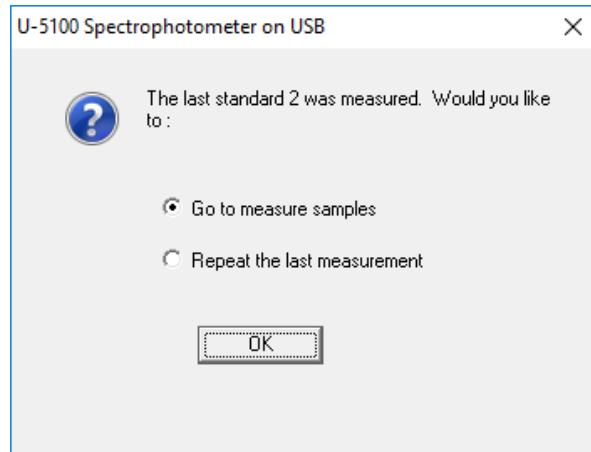

Fig. 4-51
- (10) On completion of standard sample measurement, a window as shown in Fig. 4-51 will appear. Click the **OK** button for moving on to unknown sample measurement.